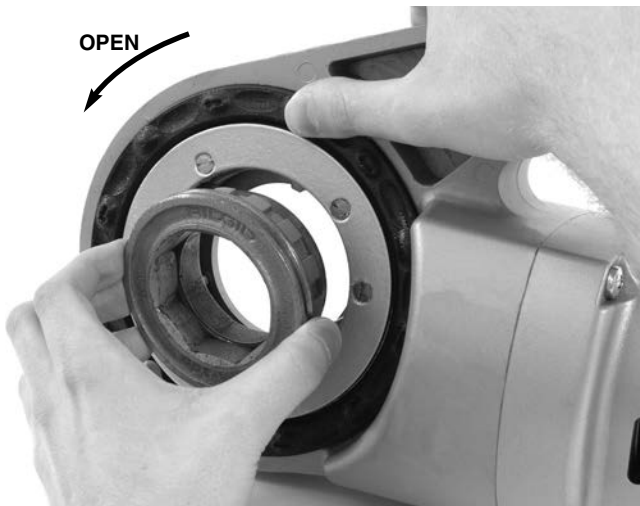

Figure 8 – Installing Adapter Into 690-I
- b. If needed install the adapter in the 690-I (*Figure 8*).